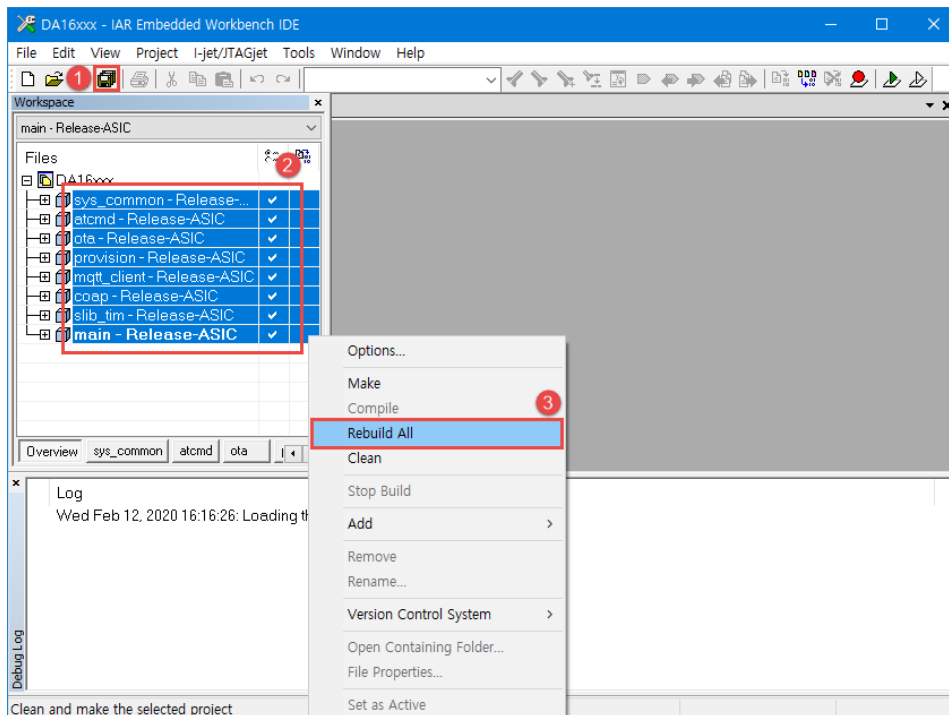

Figure 33: Rebuild SDK
- 3. Rebuild the SDK. See Figure 33.